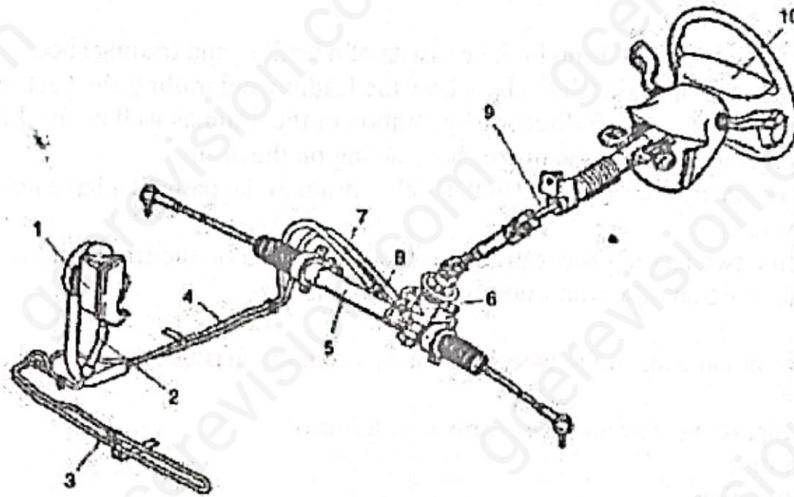

Figure 6
- v) Name FOUR components of the system shown in figure 6 that require regular check. (2marks)
- vii) What are the differences between the power assisted steering system shown in figure 6 and the